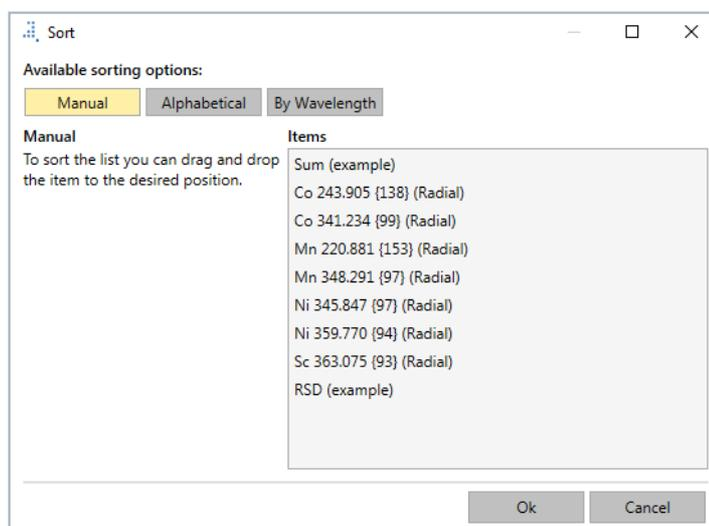

Figure 6-11. Sort window
1. On the toolbar of the LabBook, click **Sort**. The Qtegra **Sort** window opens, see Figure 6-11.